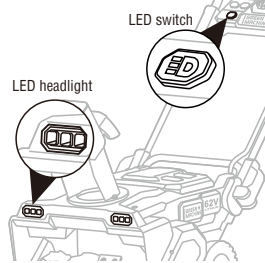

Fig.8
1. The LED headlights are located in the front of the unit. (Fig.8).
2. To turn on the lights, press the LED button on the control panel (Fig.8).